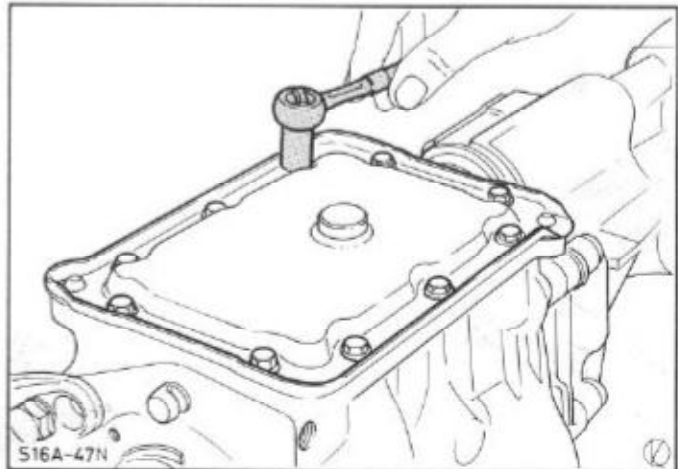

Fig.114. Remove transmission housing cover.
4. Remove transmission housing cover, Fig.114, swivel the transmission and drain gear oil.